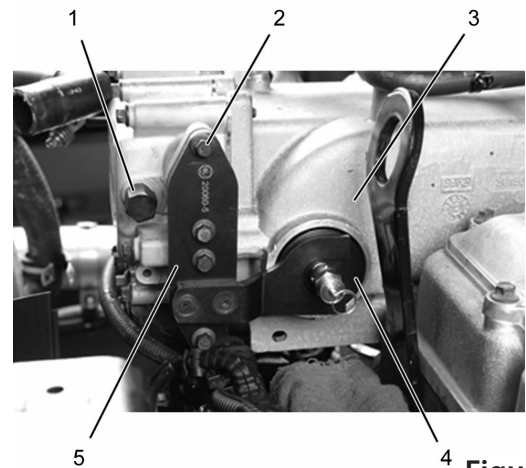

Figure 15
22. Install cooler plug (Figure 15, Item 1) into EGR temperature sensor port.
23. Install large plug disc - pop off (Figure 15, Item 4) into EGR high-temperature cooler outlet.
24. Install double hole plate (Figure 15, Item 5) with four M8 x 20 bolts (Figure 15, Item 2) onto EGR low-temperature cooler housing (Figure 15, Item 3).